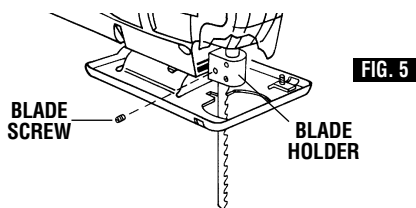

FIG. 5
1. **For Auto-Scrolling** insert the blade to full depth, with blade in the rear position of blade holder as shown in (Fig. 5).
Note: On auto-scrolling models, the blade must be the REAR position of the blade holder as shown in Fig. 5, in order for the slot to surround the blade.